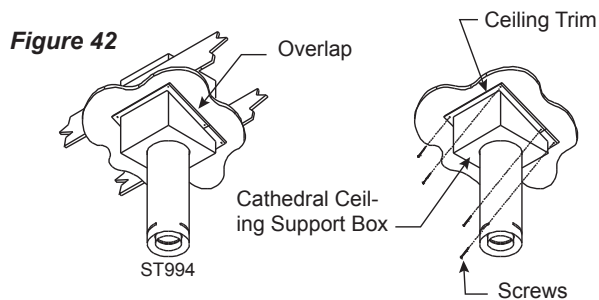

Figure 42
Step 9. Install the black trim collar around the outside of the Cathedral ceiling support box. The two pieces of the trim collar slide over one another to allow for easy adjustment around the support box. Using the six (6) screws provided, secure the four corners and the overlapping sections of the trim collar to the underside of ceiling. You may want to predrill the holes for the overlapped sections for ease of installation. (Fig. 42)